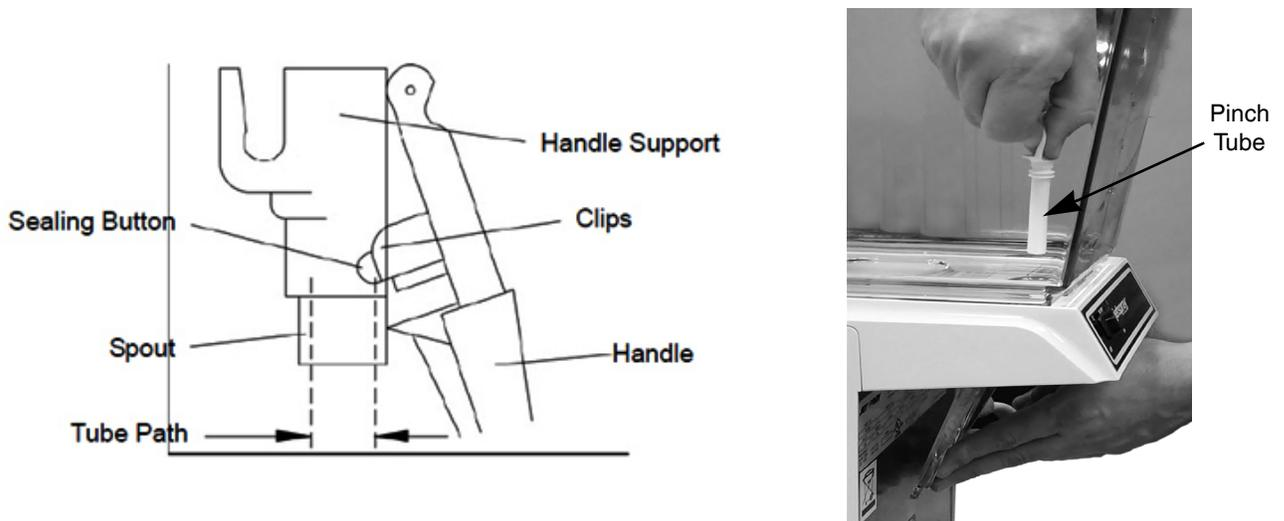
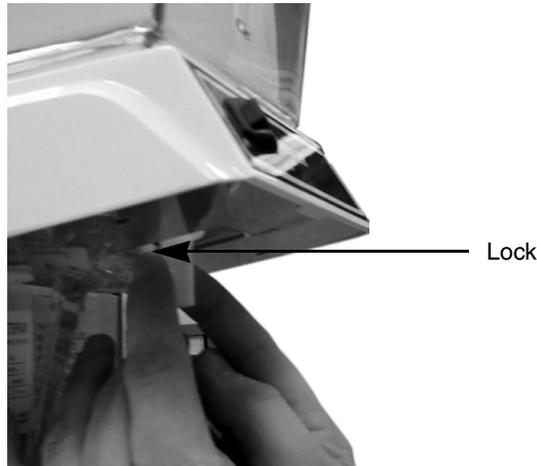

Figure 1.
Figure 3.
4. With the other hand, pick up the pinch tube, as shown in Figure 1. Carefully insert the tube into the bowl spout opening and through the lower opening of the handle support spout.
- C. Squeeze clips until they are free from the panel, then pull straight down on the handle as shown in Figure 3, until it is free from the panel.
4. Remove the pinch tube by pushing the handle until it stops and pulling up on the pinch tube until it is free (see Figure 1.), then remove the handle (see Figure 3.). Lift off the bowl, drip trays and covers. Clean them thoroughly.